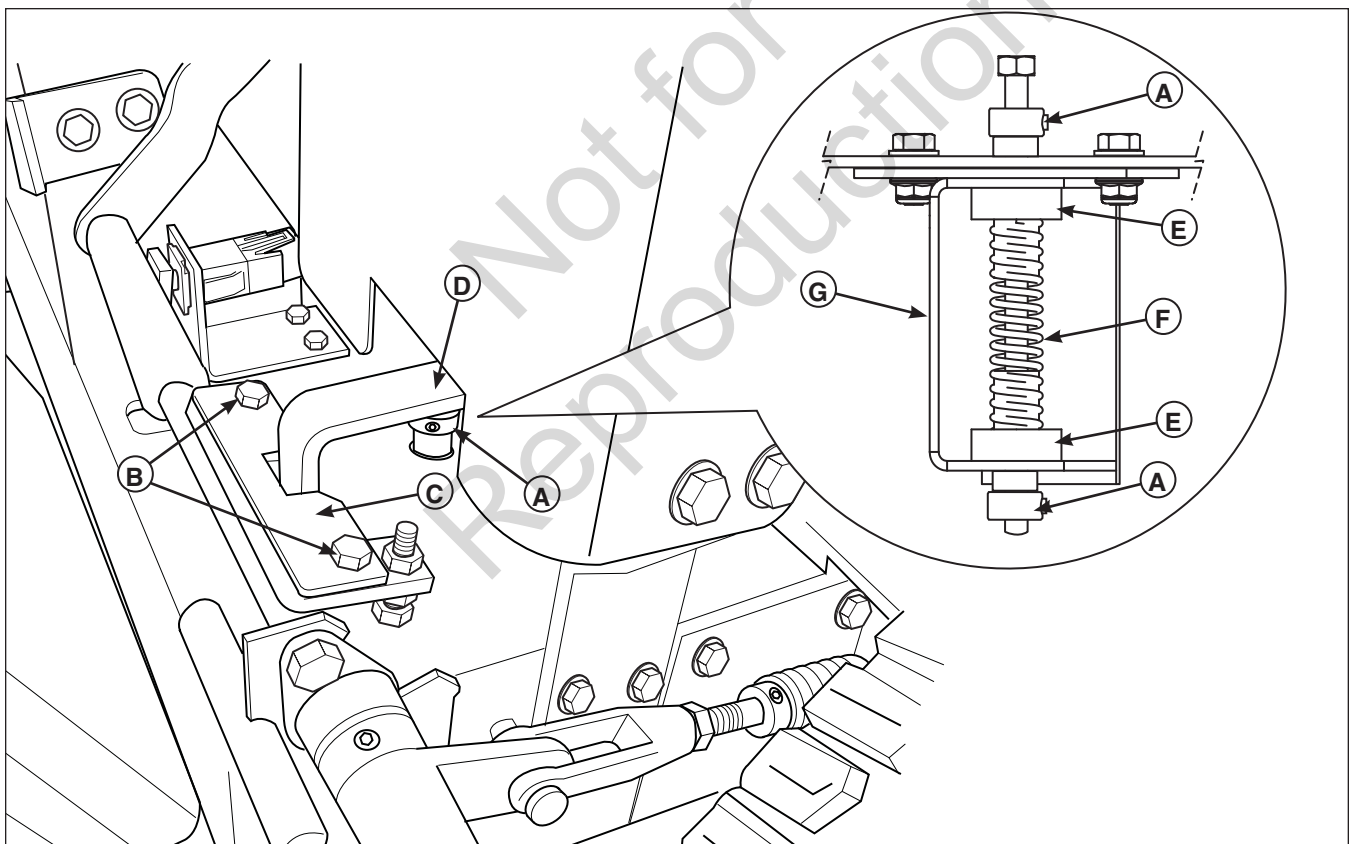

Figure 30. Neutral Position
2. Loosen the set collars (A, Figure 30) that are located on the top and bottom of the neutral return spring (F.)
3. Loosen the neutral lock plate hardware (B.) If the machine creeps forward, slide the neutral lock plate (C) and the pump control arm (D) slightly to the right. If the machine creeps backwards, slide the neutral lock plate and the pump control arm slightly to the left. Retighten the hardware that secures the neutral lock plate.
4. Refer to 30. Make sure that the top plastic bushing (E) is seated tightly against the top of the neutral return bracket (G). Make sure that the bottom plastic bushing (E) is seated tightly against the bottom of the neutral return bracket. Tighten the set collars (A).